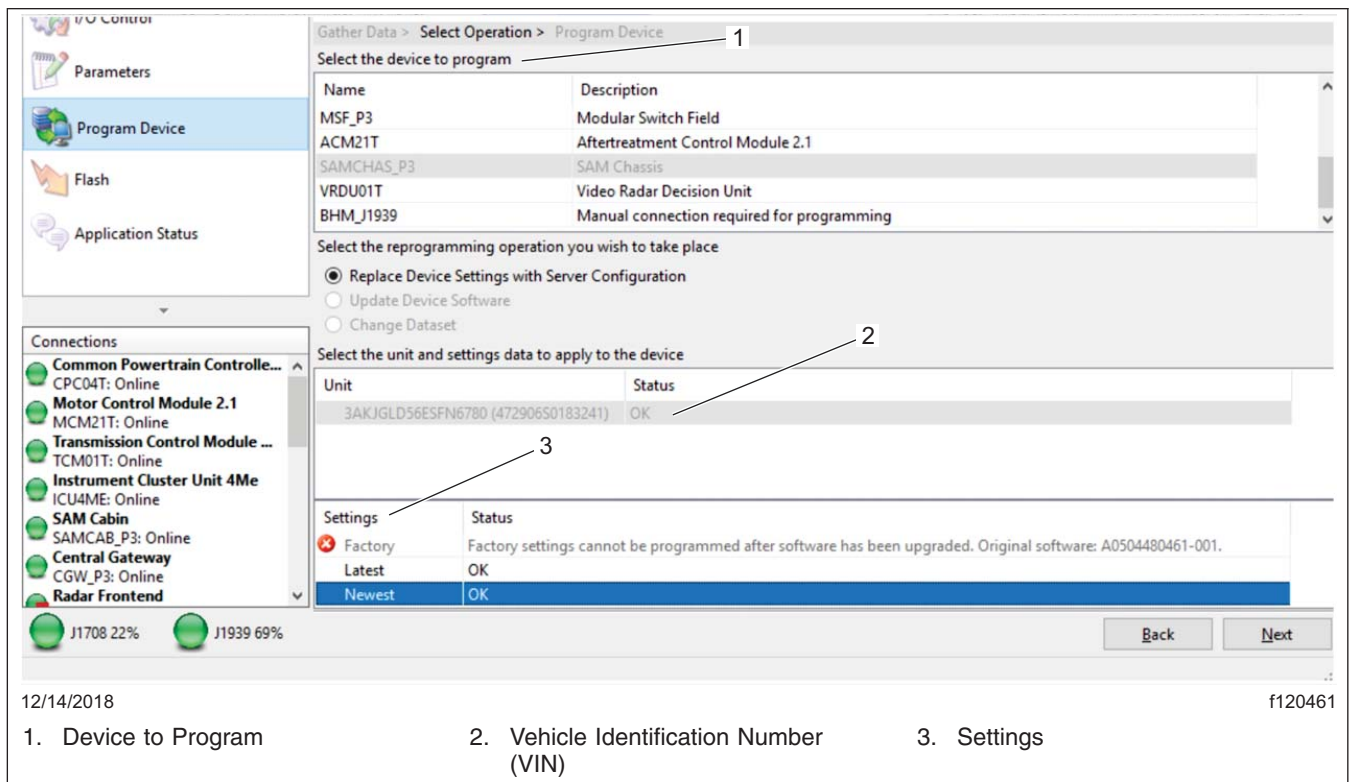

Fig. 10, Selecting "Latest" or "Newest" Software
11. Select either the FCU, ACU, or PCU to program, select the VIN, and select either "Latest" or "Newest." Click "Next." See Fig. 10.